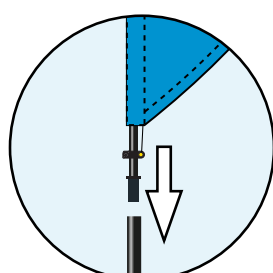

Fig 9.
8. Add the 2.5m (45mm) bottom section onto the joint of the top section. (Fig 9)